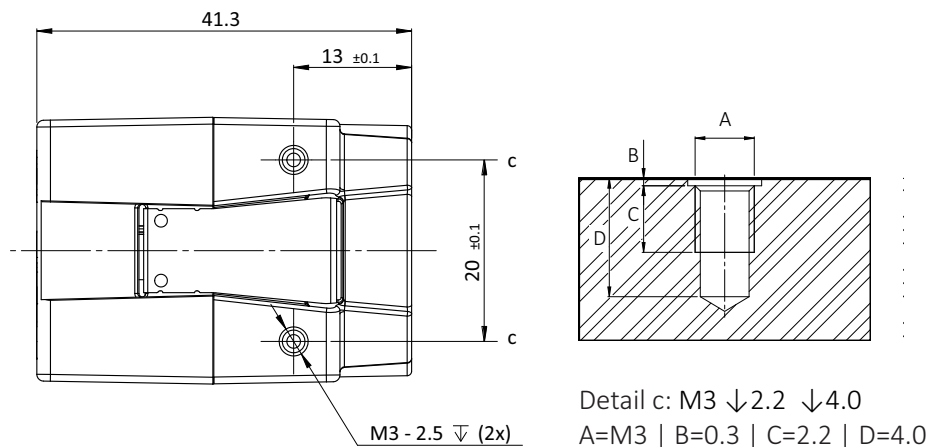

Figure 59: Mounting threads bottom and top (a)
1. As shown in Figure 59, mount the camera to the base using suitable M3 screws for mounting thread a: At 0.51 Nm maximum torque for a thread engagement (C) of 2.2 mm between screws and mounting threads.